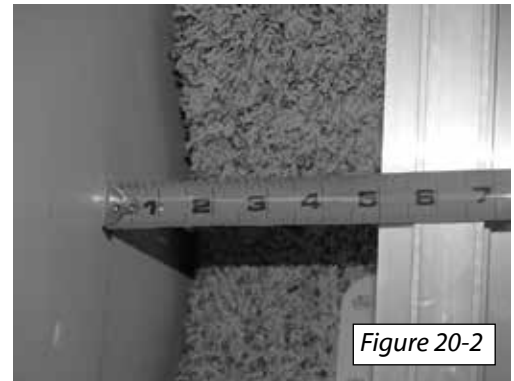

Figure 20-2
1. Set the lower section of rail onto the steps. The bottom of the rail should be resting on the stair nosings and the bottom end should be 1/4" - 1/2" off of the floor at the bottom landing [Figure 20-1]. Position the rail 5 in. [Figure 20-2] from the wall or any protruding object.